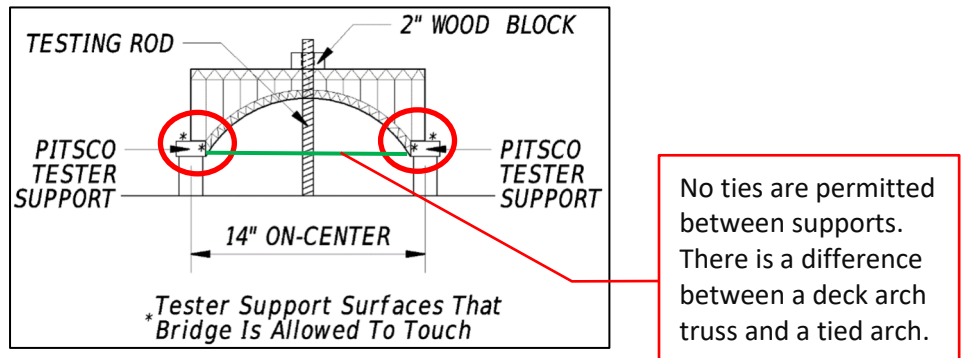

Figure 10. Support Detail
- i) The bridge is allowed to touch the tester support surfaces ONLY where shown by the "*" in Figure 10. Bridges are not allowed to touch any portion of the tester not denoted by "*" in Figure 10. **It is recommended, but not required, to utilize both the horizontal and vertical support surfaces (denoted by "**") for strength advantages.**